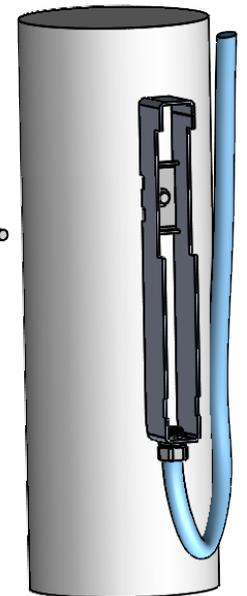

Figure 2
- Install the conduit into the conduit fitting (802-1003) then install the conduit fitting into the hole at the bottom end of the bracket, tightening the nut until secure. (Figure 2).